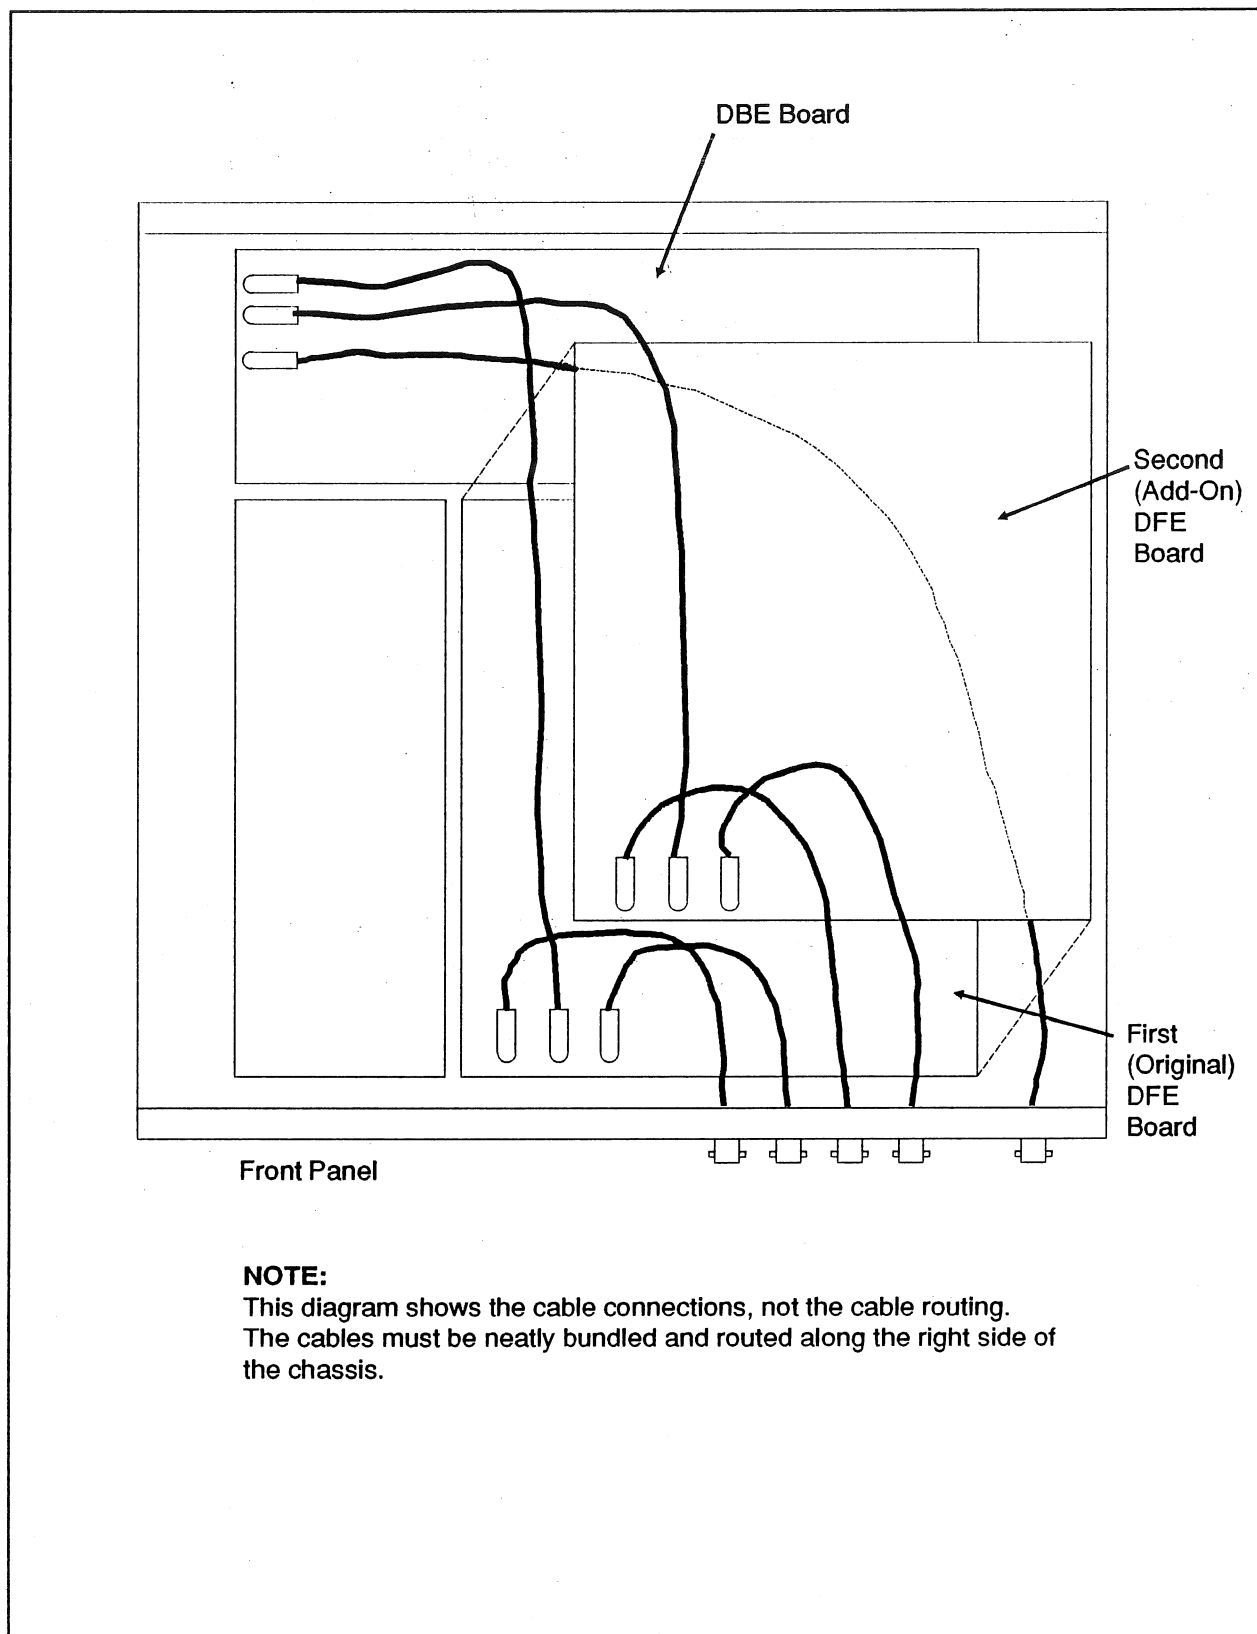

Figure 5-3. DFE Board Coax Cables
- 10** Install two coax cables from the new DFE Board to the coax connectors on the front panel. See Figure 5-3.